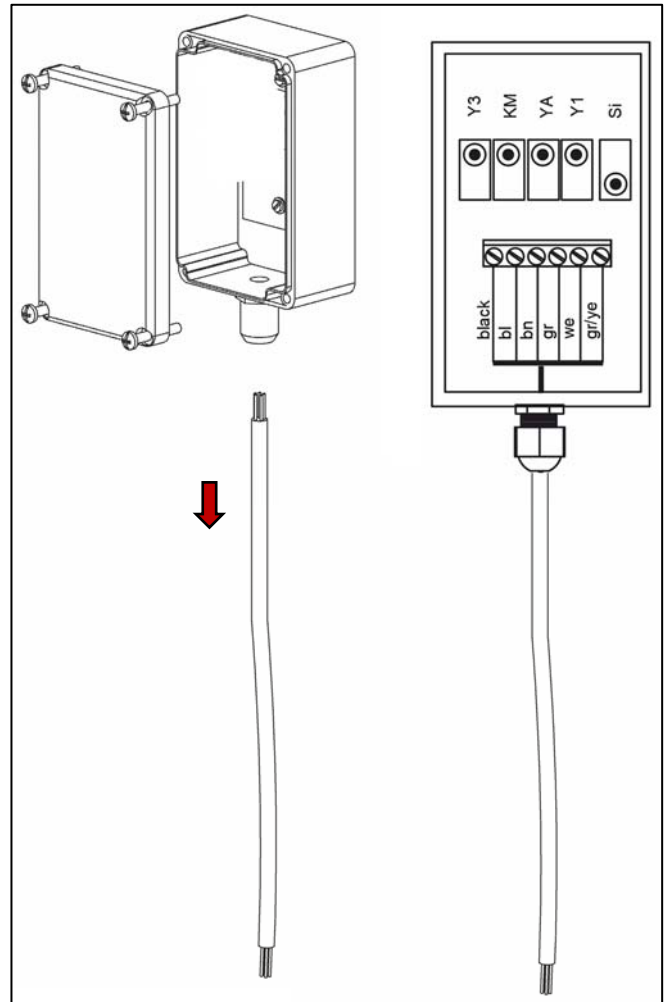

Fig. 32
- Disconnect the Service switch extern box from the cable by loosening the screw terminals in the housing (see Fig. 32).
- Reconnect the service switch to the routed cable as shown in Fig. 32.